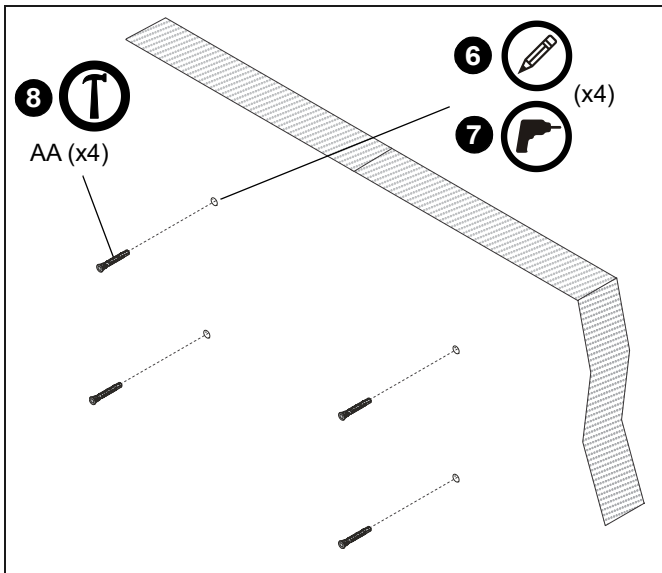

Figure 14
- Position the storage box (H) against the wall in the desired mounting position. Use a level to ensure of an even mount.
- Mark the positions of the four mounting holes in the storage box extrusions on the wall. (See Figure 14)
- Remove the storage box from the wall and drill a pilot hole at each marked location. (See Figure 14)